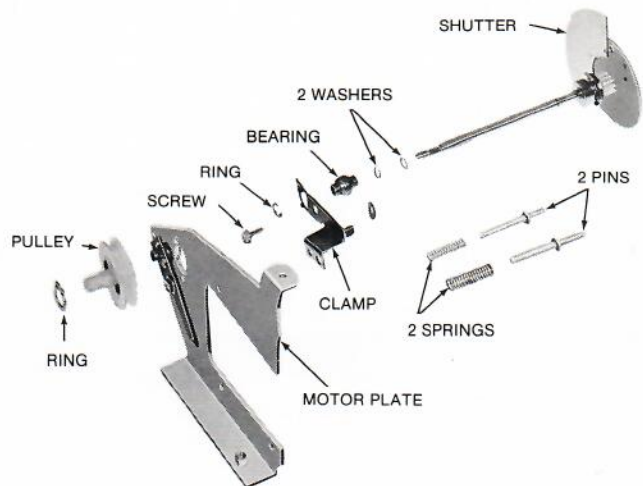

FIGURE 26
8. Remove the RING, the SHUTTER PULLEY, and the WASHER(S) from the SHUTTER SHAFT, Figure 26, Page 13.